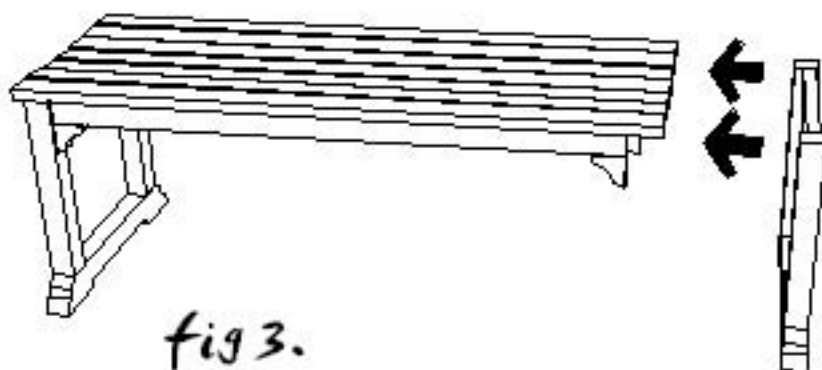

fig 3.
4. Insert the other leg. (Fig. 3)